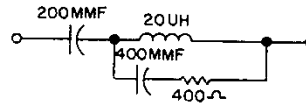

Figure 9. RETMA Dummy Antenna
4. Standard RTMA dummy antenna shown in Fig. 9.